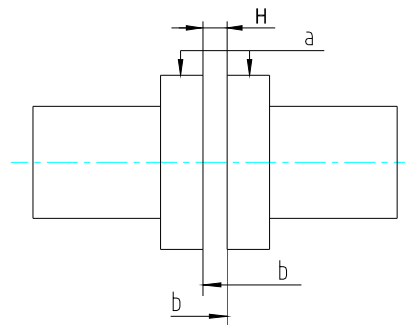

图 6 Fig.6
(2). 将装好半联轴节的电机就位前，应按减速机外形及安装示意图中联轴器的总长 L(图 6)尺寸(总长 L 尺寸是由用户确定)，留足轴向 L 尺寸。并保证联轴器的法兰间的间隙尺寸 $H=10\sim 15\text{mm}$ ，该尺寸在联轴器装配图和减速机外形图标注有（如未标注，该尺寸为 $H=10\text{mm}$ ）。
(3). 主电机轴线和减速机轴线的对中找正（如图 6）。其精度推荐按表 2 进行找正好后，固定主电机并按以上要求复查合格后，安装弹性销部件。
(2) Before operating the motor with half coupling, sufficient space should be left (decided by the customer) for the coupling dimension L (see Fig.6) according to the reducer's outline & installation drawing. Meanwhile a clearance of $H=10\sim 15\text{mm}$ must be ensured between coupling flanges. H is indicated in coupling assembly drawing and outline drawing of reducer (In case no indication, $H=10\text{mm}$).
(3) For the axis alignment of main motor and reducer (Fig.6), the accuracy is recommended as table 2. After proper alignment, secure the motor and review again according to the above-said requirements. Then install the elastic pin assemblies